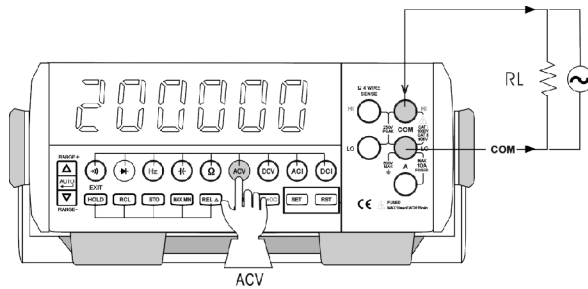

Figure 6
2. AC voltage measurement (See Figure 6)